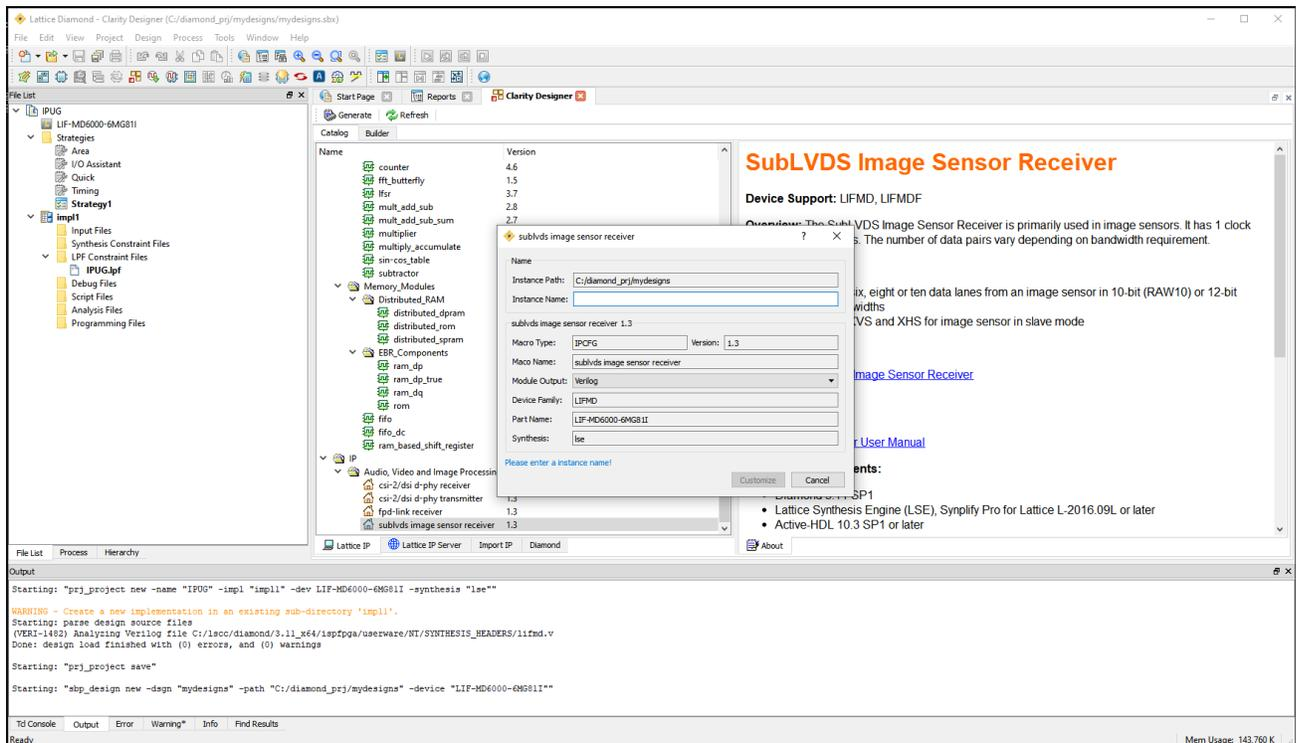

Figure 4.3. Configuring SubLVDS Receiver IP in Clarity Designer
1. Double-click **SubLVDS Rx** in the IP list of the System Catalog view. The `sublvds_rx` dialog box is displayed as shown in Figure 4.3.